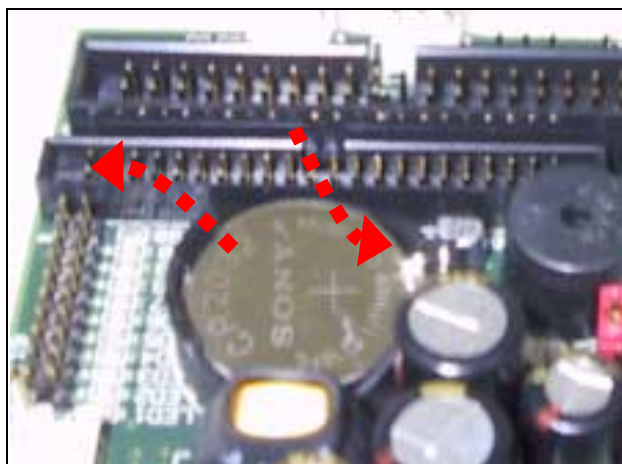

Fig. 2-14 Eject the battery
1. Press the metal clip back to eject the button battery (**Fig. 2-14**).